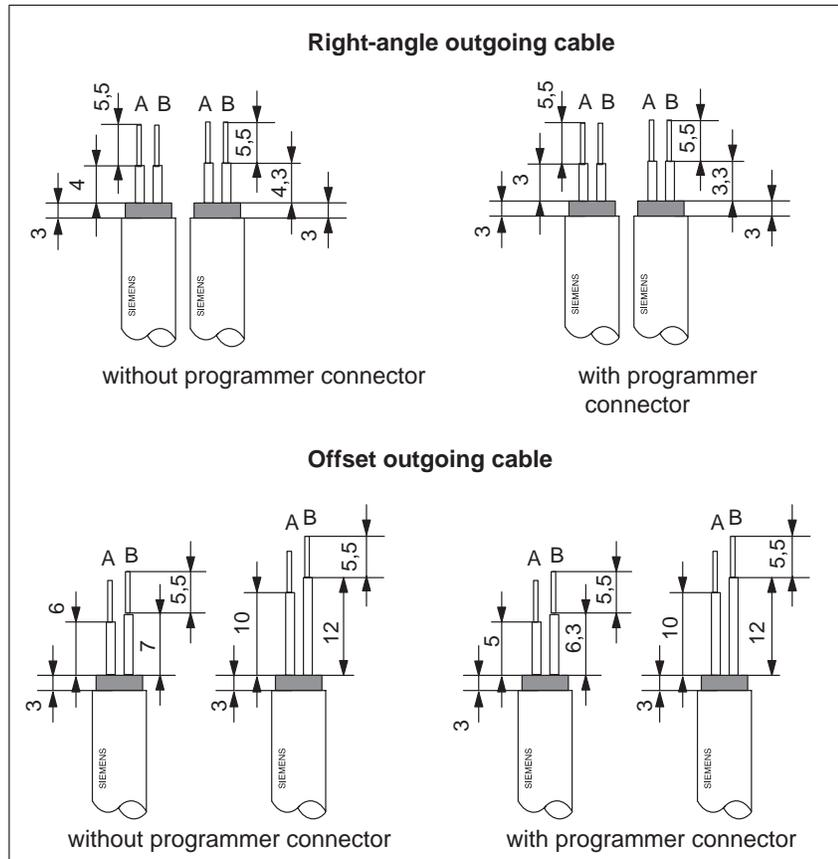

Figure 5-9 Length of stripped ends for connection to bus connector (6ES7 972-0B.20 ...)
1. Strip the ends of the cable conductors as shown in Fig. 5-9.